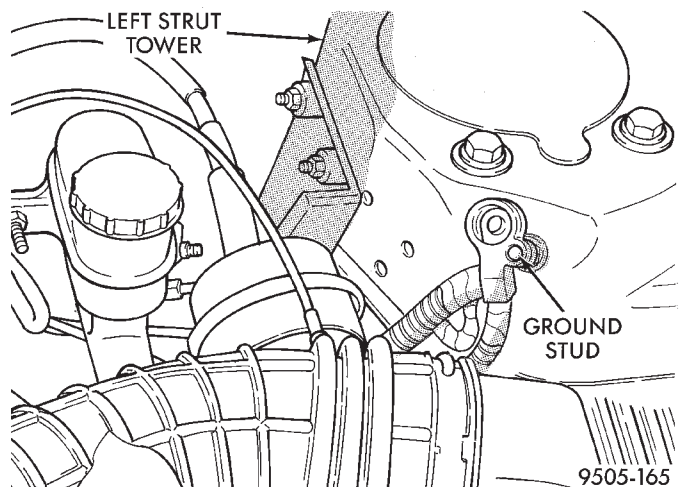

Fig. 11 Correctly Isolated Remote Ground Cable
(2) Correctly isolate remote ground cable when servicing vehicle by installing the ground cable insulator on the strut tower ground stud as shown (Fig. 11). **This will prevent accidental grounding of the remote ground cable.**